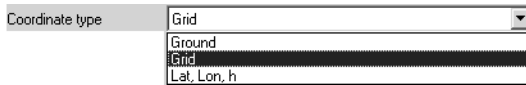

Figure 3-59. Coordinate Type List
- Select the coordinate type (Figure 3-59).